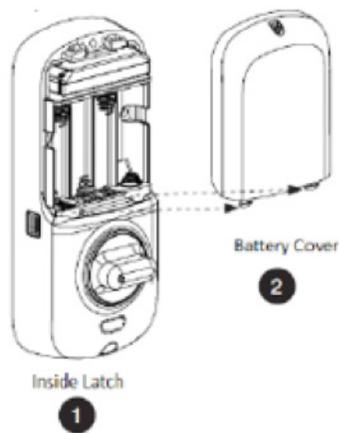

Figure 1A
- › Slide the battery cover up and out (note the two tabs at bottom of battery cover). (Fig. 1A).